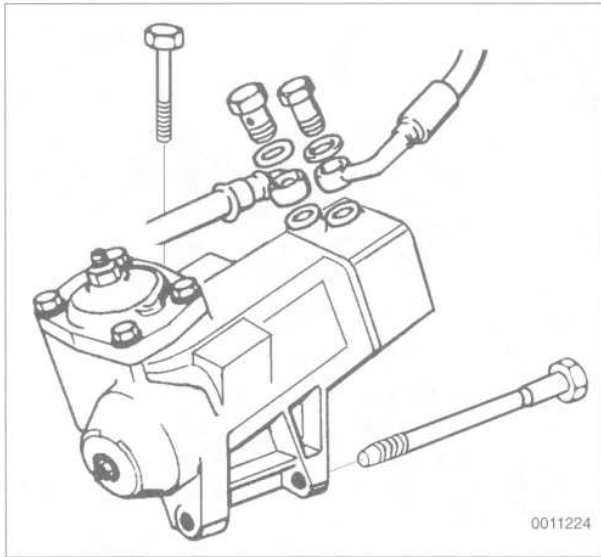

Fig. 6. Fluid hoses and mounting bolts at steering gearbox.
7. Working in the engine compartment, remove the fluid hoses from the top of the steering gearbox. Then remove the steering gearbox mounting bolts and remove the gearbox from below. See Fig. 6.